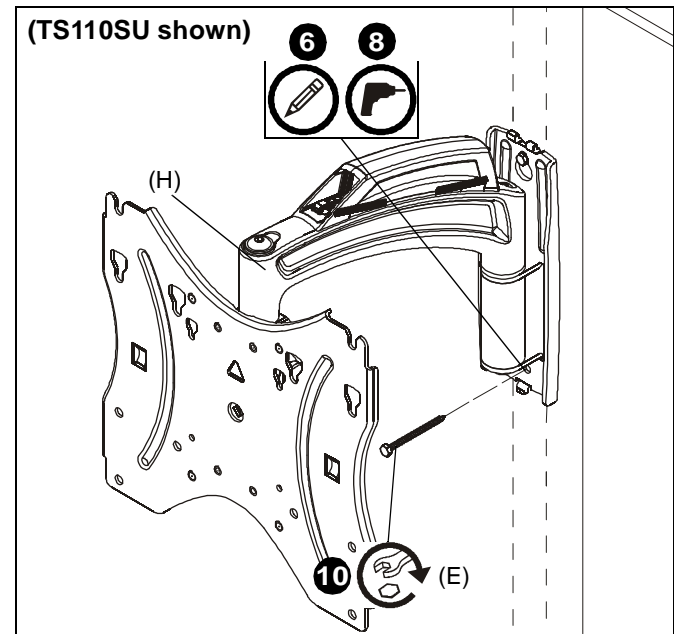

Figure 3
6. Mark holes at lower mounting hole location. (See Figure 3)
7. Remove main assembly (H) from wall.
8. Drill 1/8" hole at location marked in Step 6. (See Figure 3)
9. Hang main assembly (H) back onto wall.
10. Install remaining 1/4 x 2 1/2" lag bolt (E) into hole drilled in Step 8 to secure mount to wall. (See Figure 3)
11. Tighten both lag bolts (E) to fully secure mount to wall.